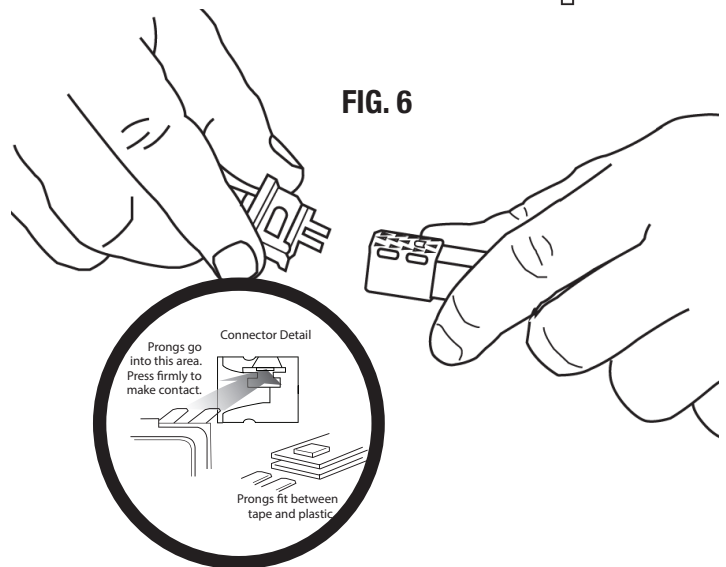

FIG. 6
6. Slide prongs from connector carefully into end of tape, making sure that they are in contact with the metallic leads (**FIG. 6**). See detail.